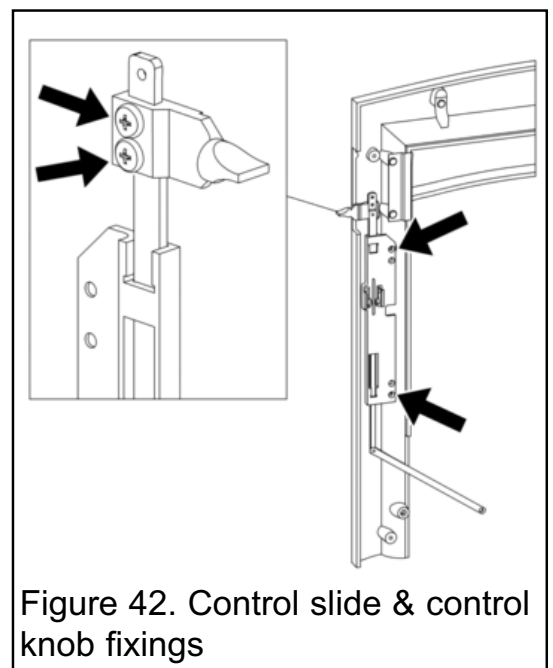

Figure 42. Control slide & control knob fixings
3. Detach the control knob by removing two screws (See figure 42).